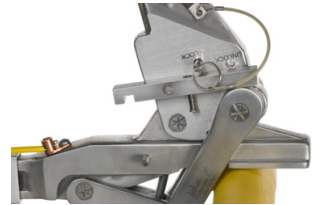

Fig 7
7. Engage the **Safety Locking Bar** by moving the **Quick Release Pin** from the UNLOCK position to the LOCK position. (*Fig 7*)